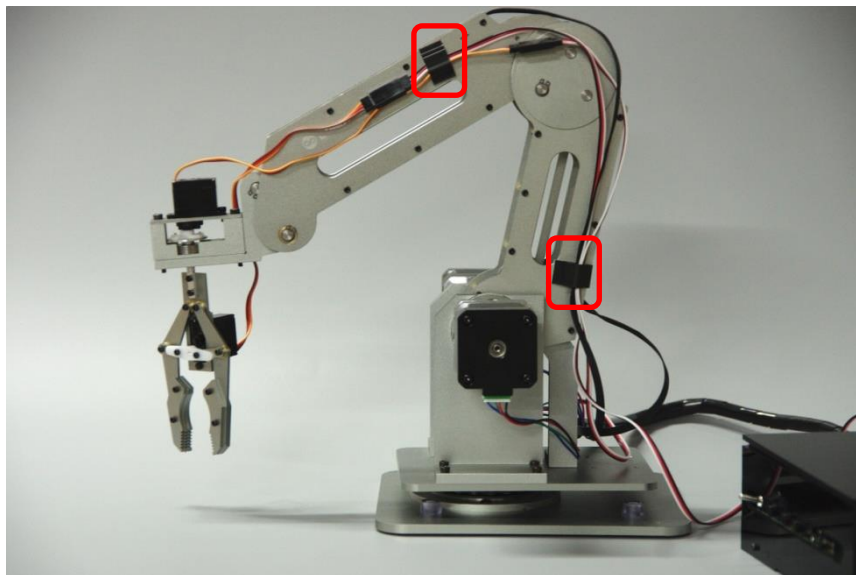

Figure 2.9 Cable clips
5. Optionally, you can organize the cables with the provided **Cable Clips**. These can be attached to the arms with the backing paper removed (Figure 2.9).